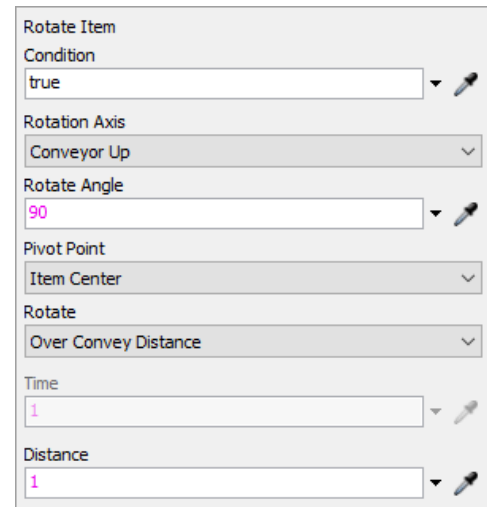

Fig. 21 Rotate Item
5. Movement – allows rotation (*Rotate Item*) and/or turnover (*Transale Item*) of the flow element on the conveyor (Fig. 21).